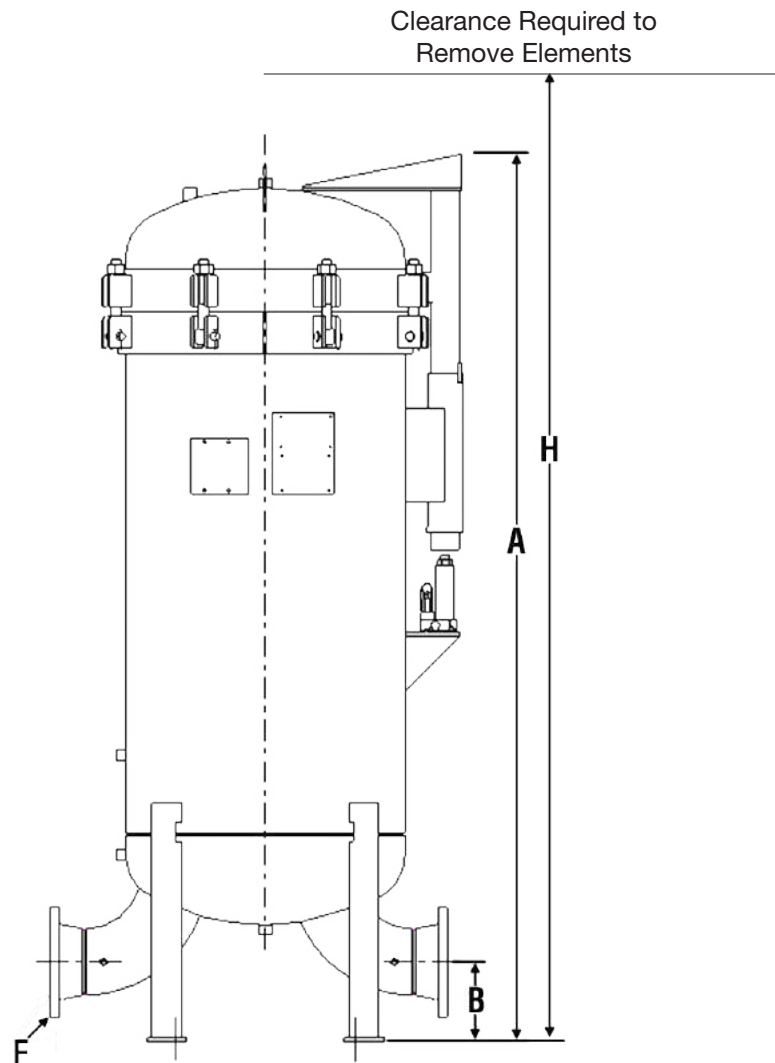

Figure 1
2. Element qty required: (4) Coalescer, (3) Separator
4. Customer must supply the length for Dimension B referenced in Figure 1 on page 90.